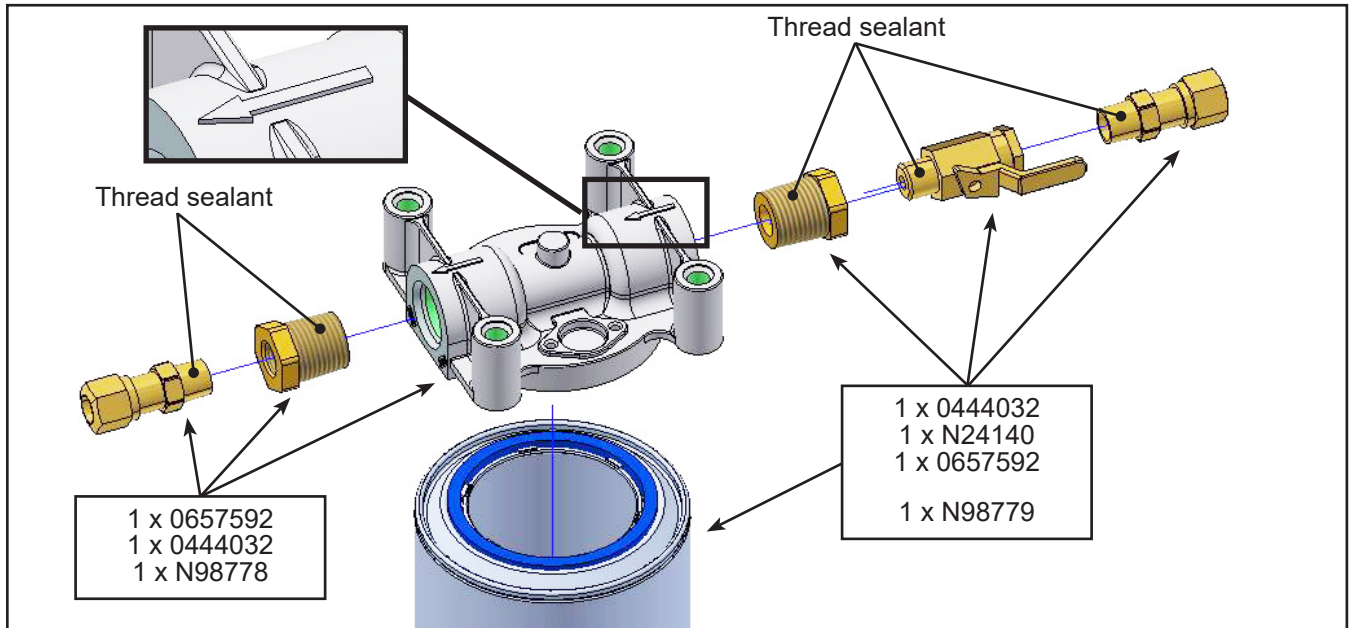

Figure 4 - Assemble the Fuel Filter Assembly
1.9. Assemble the new fuel filter system as show in Figure 4. Apply thread sealant where shown and validate fuel filter head orientation.